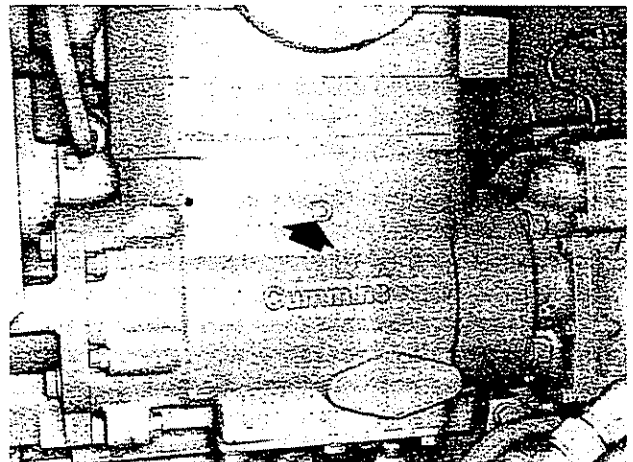

Fig. 1-20, (K21904). Two cylinder air compressor coolant drain
2. Drain the cylinder block and heads on all engines by opening the petcocks and removing the drain plugs as shown in Fig's 1-13 to 1-19. If an air compressor (Fig. 1-20), heat exchanger or other "water cooled" accessory is used, open the petcock and drain. Failure to properly drain the engine and accessories may cause serious damage during freezing weather.